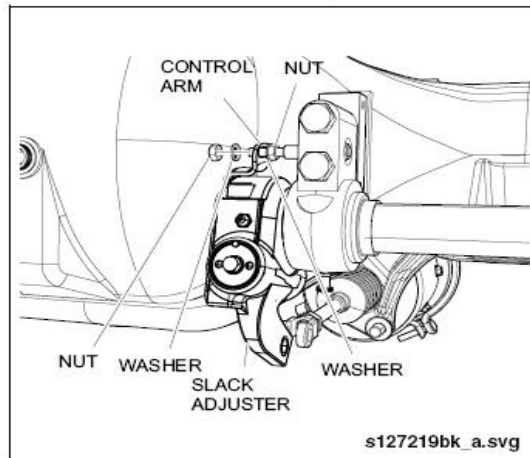

Fig. 2-103: Control Arm Adjustment
3. Thread the inner and outer control arm mounting nuts against each other to lock the control arm in position. Torque the nuts to 17 ft-lb. (23 Nm). See "Fig. 2-103: Control Arm Adjustment" on page 99.